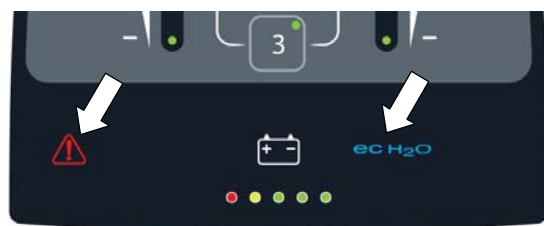

FIG. 43
- If a machine fault is detected during operation, the service indicator will light up and begin flashing (Figure 43). See SERVICE INDICATOR CODES.